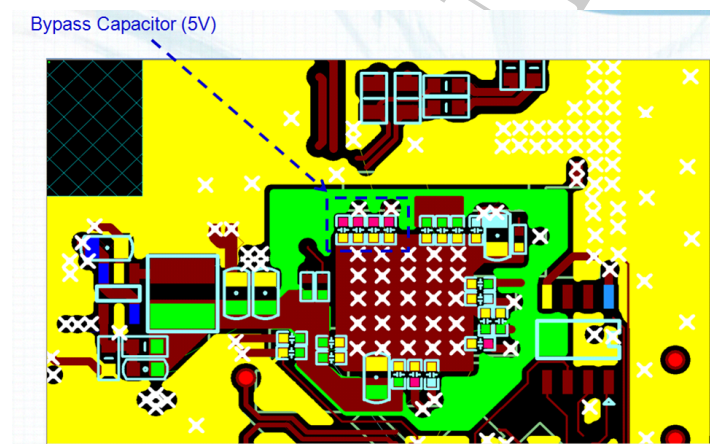

Figure 4.14: Layout for Bypass Capacitor.
- For MT3302 pin 58, 59, 62 and 63 it is recommended to follow the layout topology as shown in Figure 4.14.